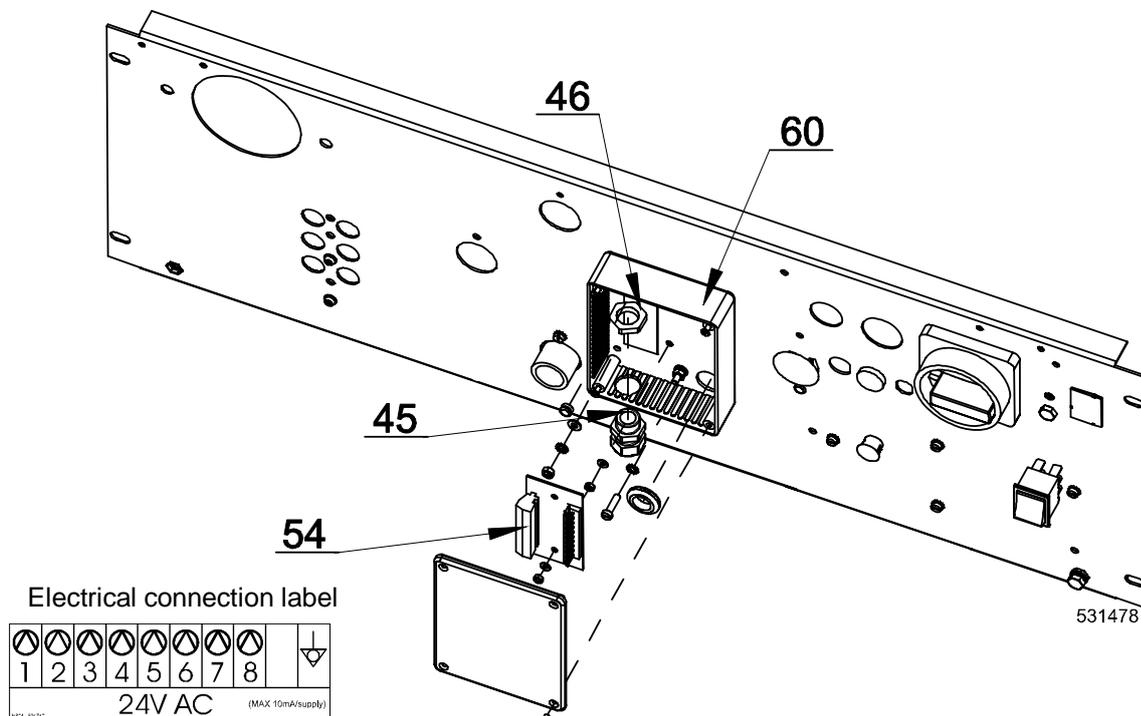

Fig.4.5.C
For electric connection of supply control signals a plastic box is available on the back side of the machine (see fig.4.5.C., pos.60) with the terminal box with LED signalization of activation of the respective pump, (pos.54). Under the terminal box there is a label for electric connection, fig.4.5.C. Detail connection of signals could be also found on the electric scheme of the machine. Signals for supply pumps control are 24V AC. Maximum current for control circuits of pumps must be limited to 10mA. Lead the cable for connection of pumps control signals through the plastic cable bushing, position 45. After connection of conductors to the respective positions of the connector „P“ (screw clamps), fix up the cable by tightening the cable bushing against disconnection and close the box with the cover. For details about liquid soap supply system programming, see Programming manual.